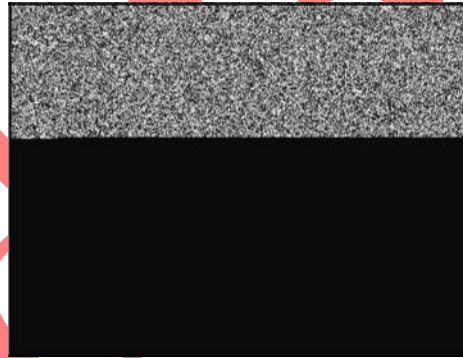

Figure 26
2. Insert RED test lead (A, Figure 26) into the V Ω receptacle in the meter.
3. Insert BLACK test lead (B) into COM receptacle.
5. Attach RED test lead clip to GREEN output terminal (C).